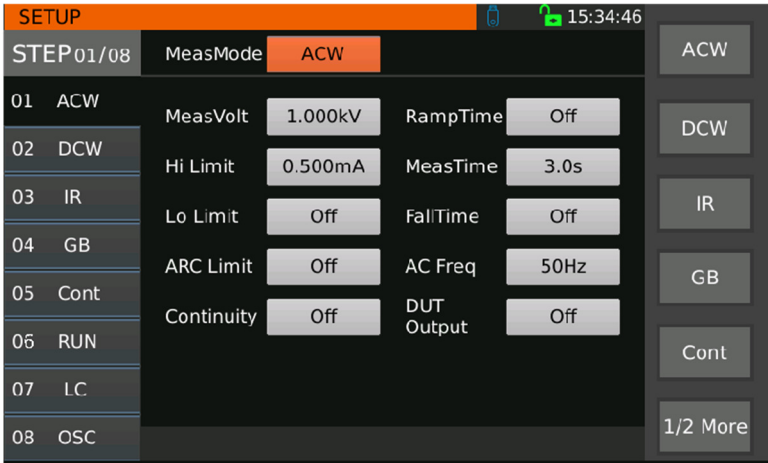

Figure 3-11 Measurement Setup 1
1. Press **SETUP** key to enter the measurement setting interface shown in Figure 3-11.